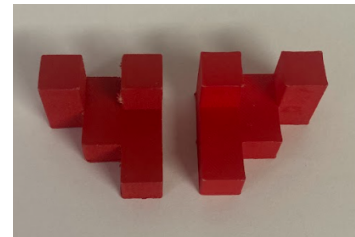

Figure 1: Two 3D objects of the same shape, mirrored
1. *The shape (Figure 1):* The activity includes three base shapes that vary slightly, including mirror image shapes of each base shape. The 2D drawings only provide orthographic projections, so students need to look at multiple views on the drawing to understand the part in all directions. Some students incorrectly matched with the mirror image partner.